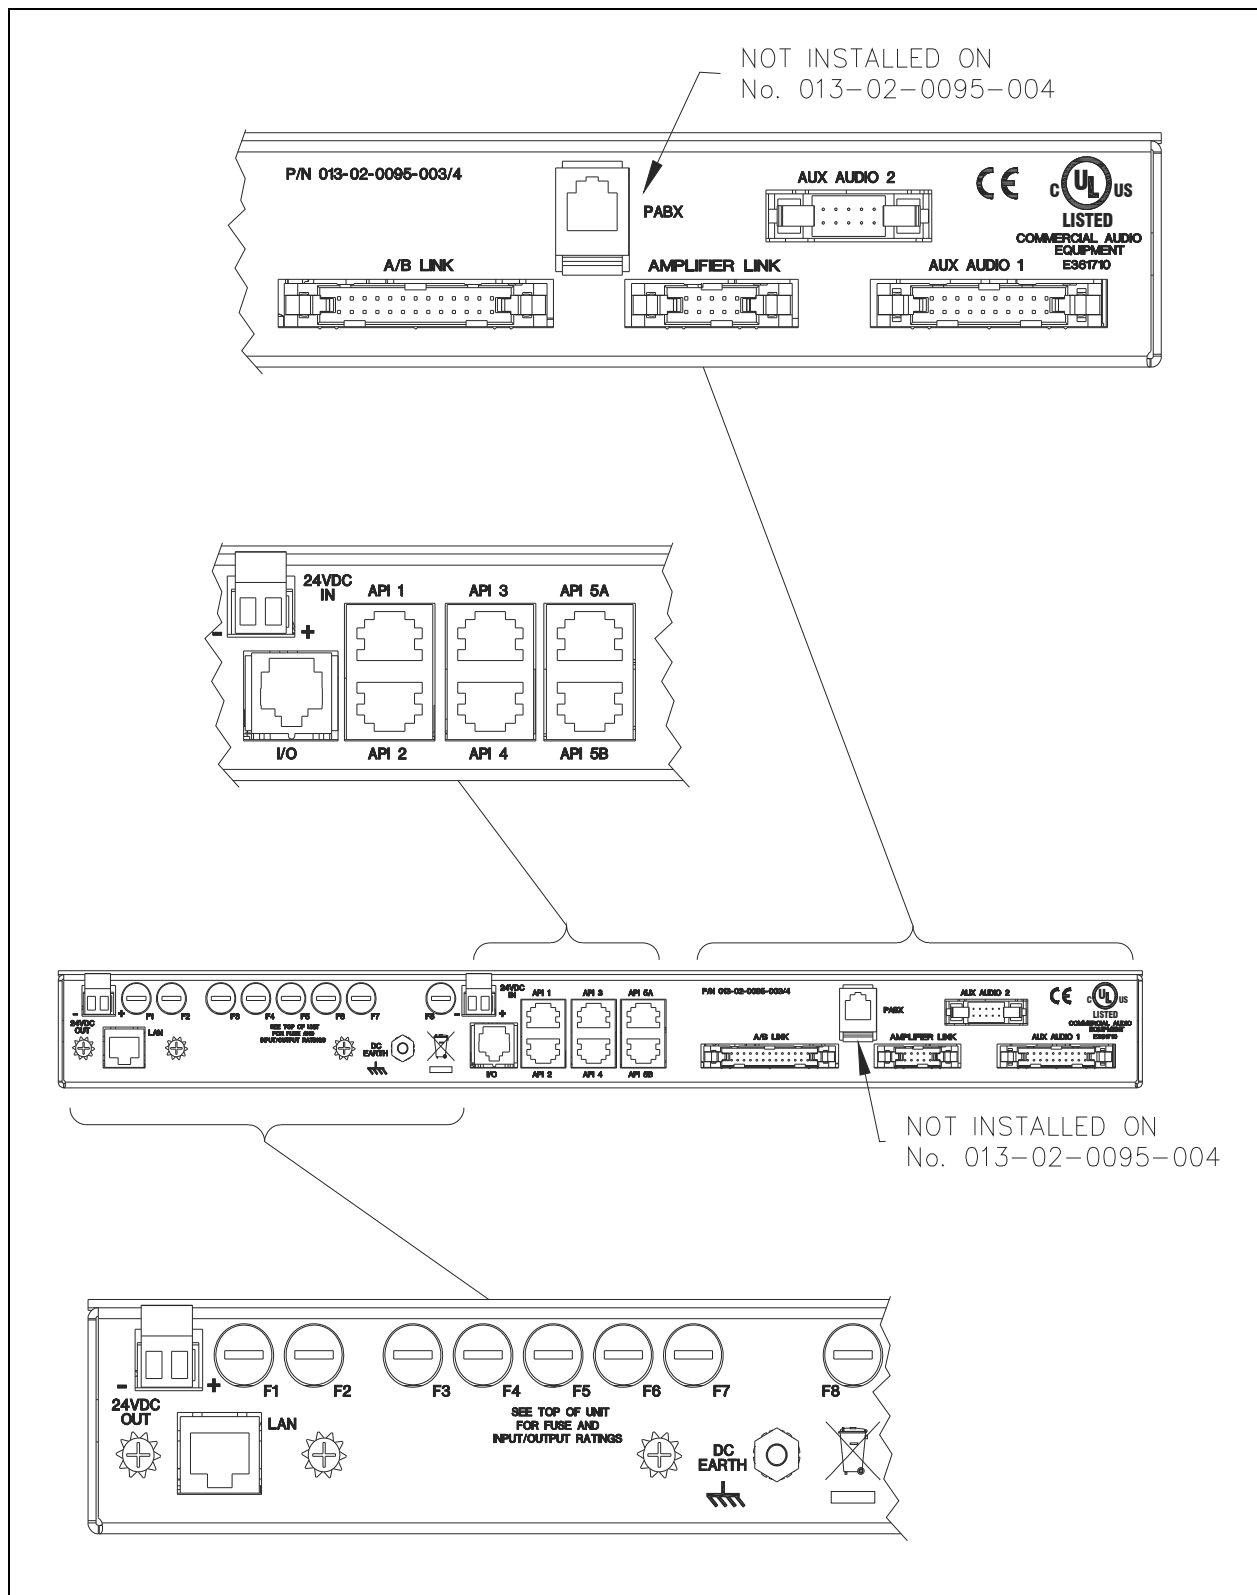

Figure 3. E3 System Controller—Rear View
Make all system connections at the rear of the E3 system controller (see Figure 3).
1. Remove the two-position plug from the 24VDC IN header (see Figure 3).
Install an appropriately sized green-yellow sheathed conductor between the DC EARTH terminal on the rear of the unit and the telecoms earth bar inside the cabinet (see Figure 3).
Supply power to additional devices via the 24VDC OUT connector (see Figure 3).
Connect the local area network cable to the RJ45 jack labeled LAN on the controller (see Figure 3). The LAN RJ45 jack has two LEDs on the connector:
Connect the analog telephone cable to the RJ11 jack labeled PABX on the rear panel of the controller (see Figure 3).